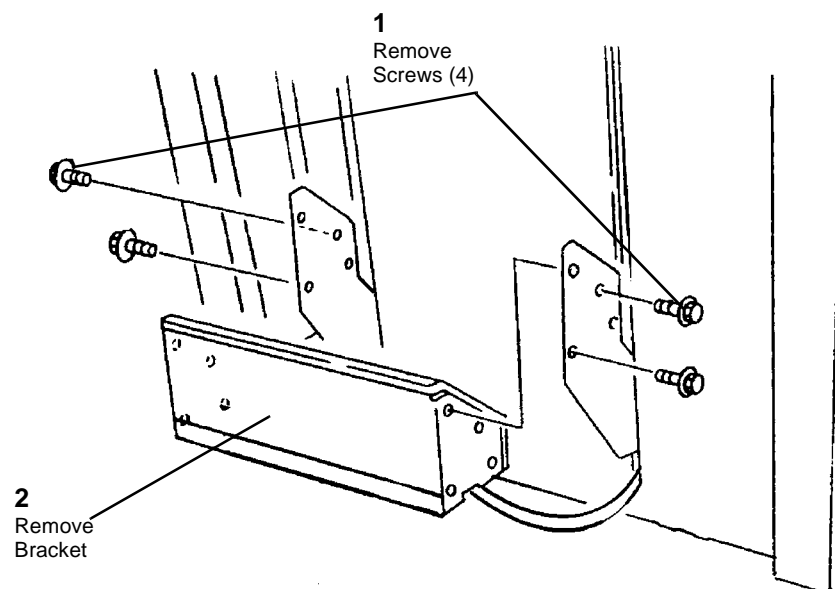

Figure 1 Remove the Bracket
2. Remove the Bracket (Figure 1).